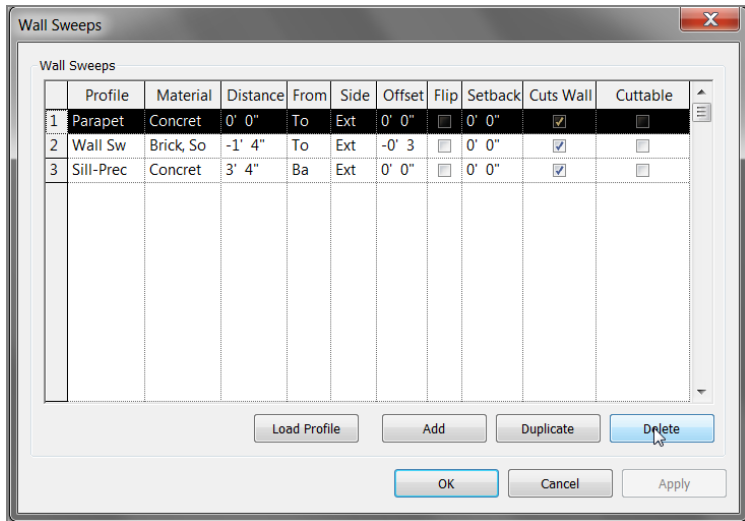

FIGURE 7.22 Deleting the Parapet Cap sweep
9. In the Wall Sweeps dialog box, you see three sweeps. The top sweep is the parapet cap. Select sweep 1 (Parapet Cap), and click the Delete button, as shown in Figure 7.22.